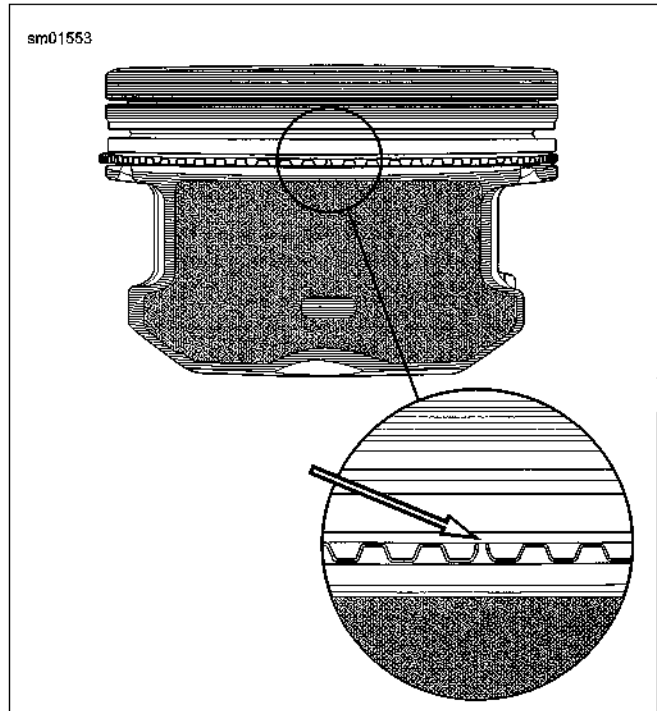

Figure 3-54. Installing Oil Control Ring Expander Spring (typical)
3. See Figure 3-54. Install oil control ring expander spring. Make sure ends of spring point upward. Spiral bottom oil control ring into space in ring groove below expander spring. Position oil control ring gap 90 degrees from gap in expander spring. Spiral top oil control ring into space in ring groove above expander spring. Position oil control ring gap 180 degrees from gap in bottom oil control ring.